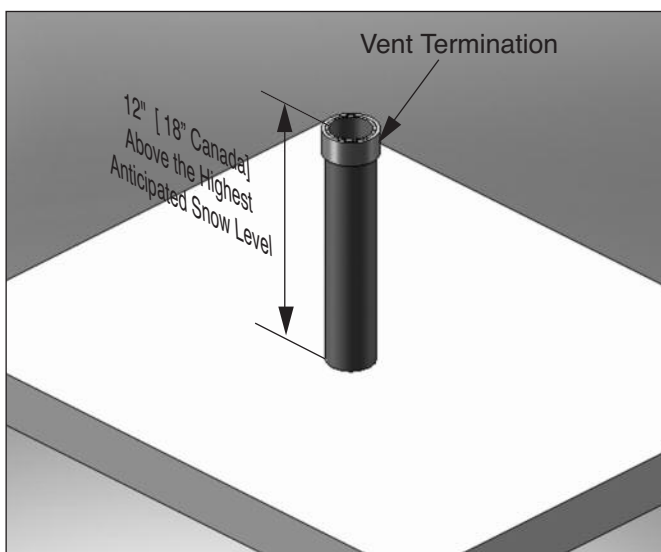

Fig. 23: Category - IV - Vertical Termination of Vent Pipe
3. The vent must terminate vertically with a coupling and must be located 12" [18 Canada] above the highest anticipated snow level as shown in Fig. 23.
3. Locate the vent pipe penetration to provide clearances as described in Fig. 23 page 22.
3. The vent piping must terminate vertically with a coupling as shown in Fig. 23 page 22.
Do not extend the vent pipe above the roof beyond the given dimensions shown in Fig. 23 page 22. Extended exposure of the vent pipe could cause condensate to freeze and block the vent pipe.